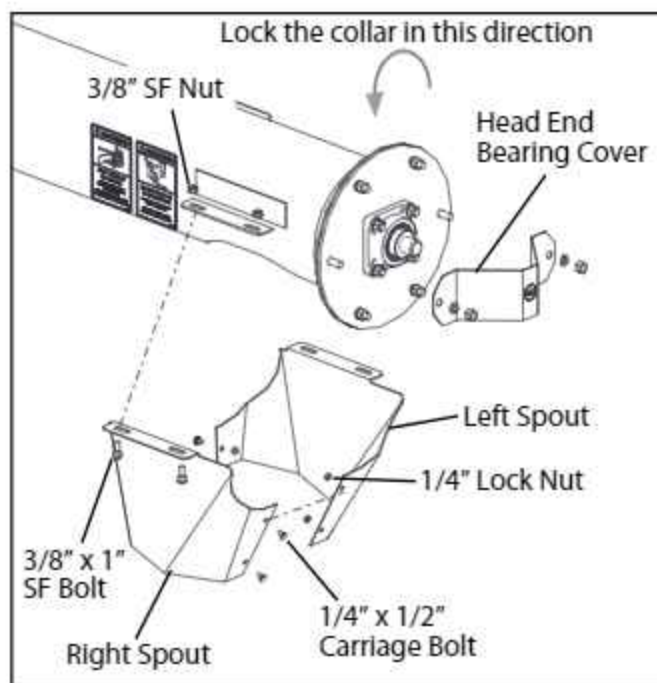

FIG. 3-8. Installing the Bearing Cover and Spout
12. Reinstall the lock collar on the Head End Bearing. Make sure to lock the collar in direction the flight will rotate and tighten the set screw. See Fig. 3-8.
13. Reinstall the Head End Bearing Cover over the head end bearing and secure in place using the fasteners removed earlier. See Fig. 3-8.